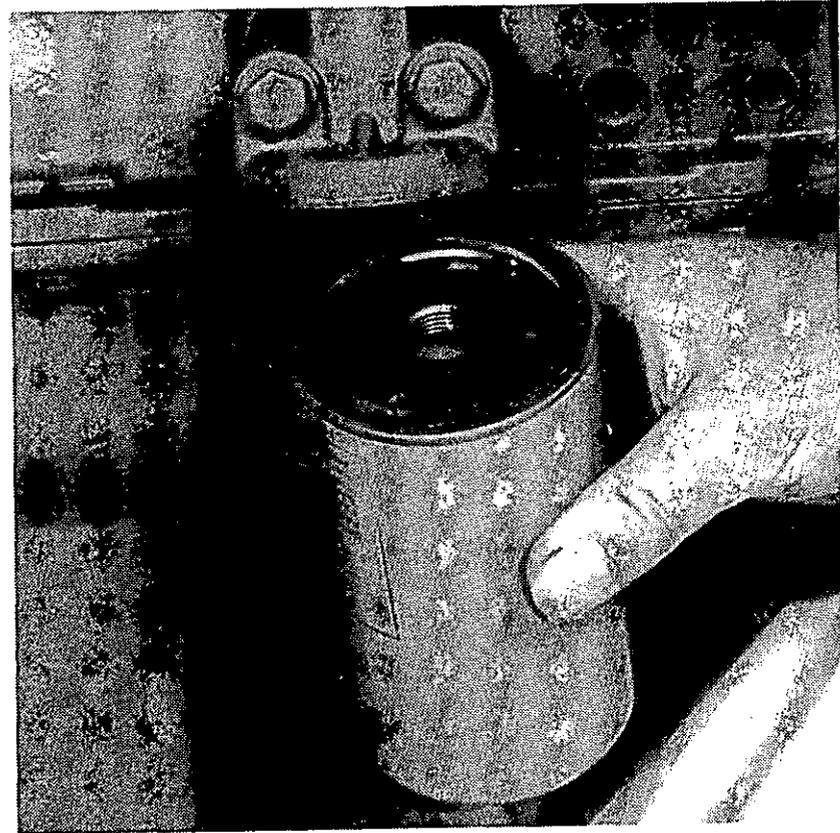

Fig. 8 To renew the lubricating oil canister
- 2 Remove the filter canister (see fig. 8) with a strap wrench or similar tool and discard the canister.